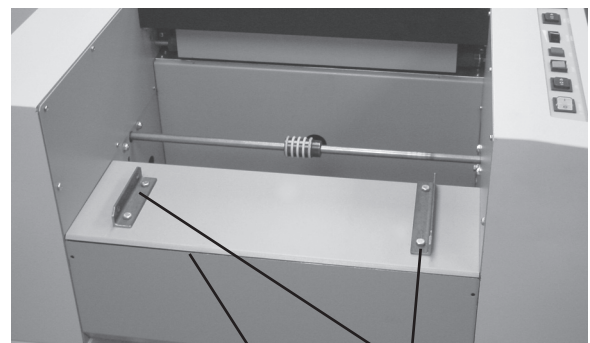

Fig 8
4. Reset the table on infeed cover and align the holes on the side of the table with the brackets mounted on the cover (Fig 8).